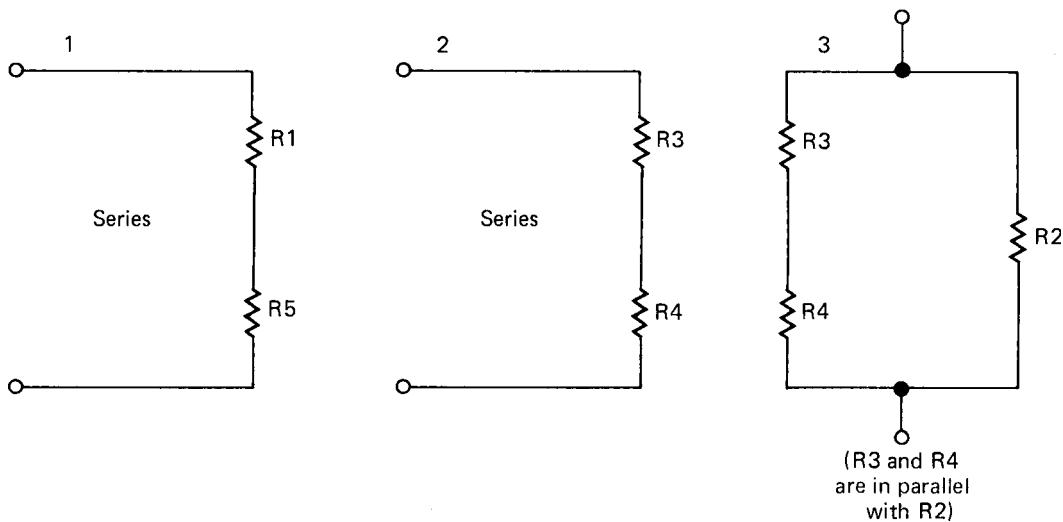

Figure 4-18 Complex series-parallel circuit redrawn in three branches.
1. Redraw the circuit for clarity, if necessary. Follow the steps illustrated in Figs. 4-18, 4-19, and 4-20.
2. Locate all branches with series resistors. This has been done in drawings 1 and 2 of Fig. 4-18.